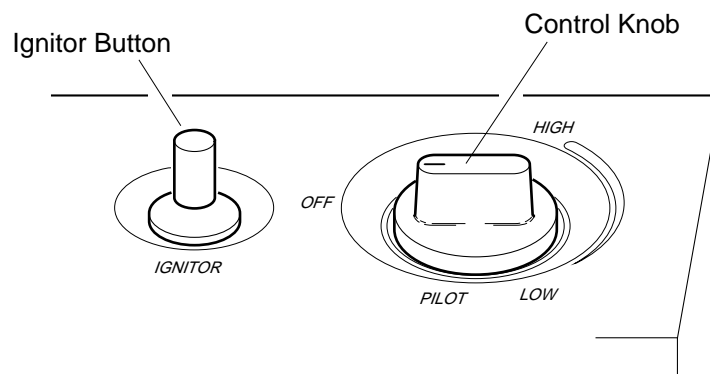

Figure 18 - Control Knob In The OFF Position
4. Wait five (5) minutes to clear out any gas. Then smell for gas, including near the floor. If you smell gas, STOP! Follow “B” in the safety information at the top of page 20. If you don’t smell gas, go to the next step.
5. Press in control knob and turn counterclockwise  to the PILOT position. Keep control knob pressed in for five (5) seconds (see Figure 18).